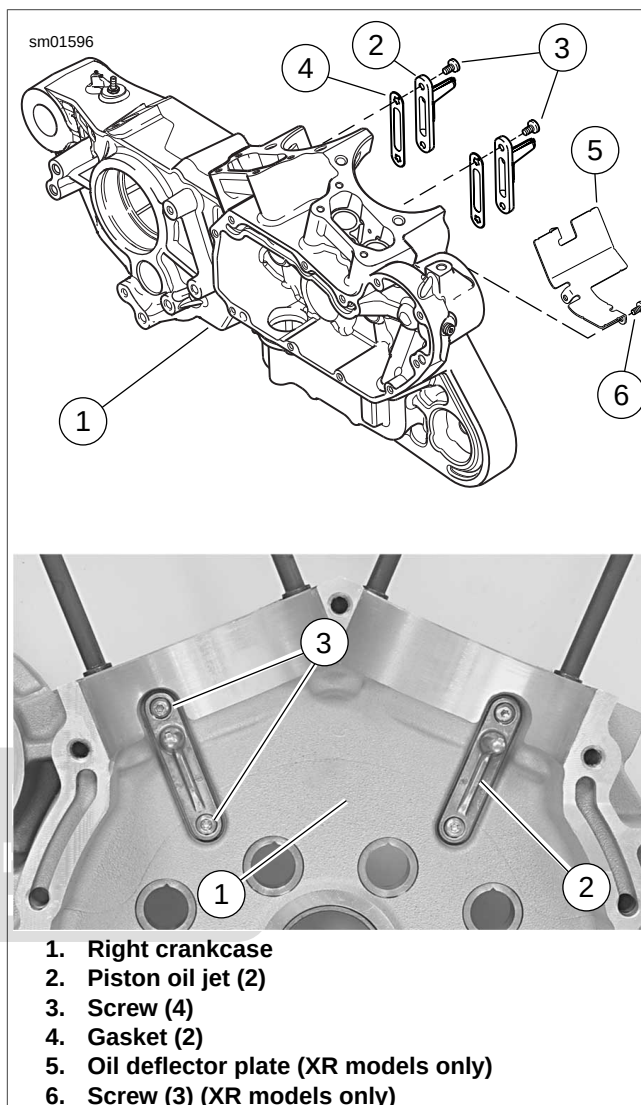

Figure 3-78. Piston Oil Jet Assemblies
- See Figure 3-78. Gasket (4) is part of piston oil jet (2) assembly and is not sold separately.
- See Figure 3-78. With oil jet pointed upward, install **new** piston oil jet assemblies (2) with gaskets (4) in right crankcase.
- Apply Loctite Low Strength Threadlocker 222 (purple) to threads of TORX screws (3) and screws (6).
- XR Models:** Install oil deflector plate (5) using three screws (6). Tighten screws to 25-35 **in-lbs** (2.8-3.9 Nm)